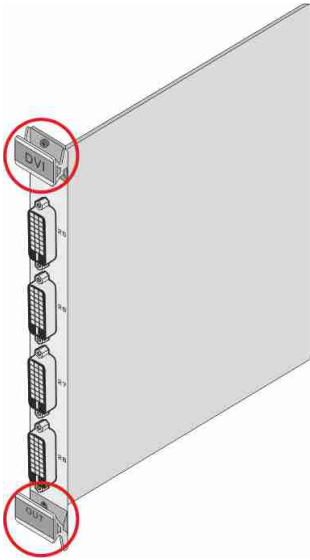

Figure 18: Card Handles
2. Using a Phillips screwdriver, loosen the screws at the top and bottom of the blanking plate (see Figure 18).
5. Holding the card by the upper and lower handles, align the card with the plastic guide rails (see Figure 18).